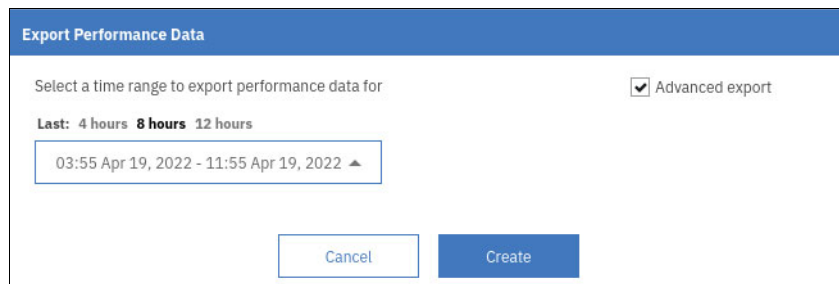

Figure 9-83 IBM Spectrum Control: Export Performance Data - Advanced Export
To include volume data and 1-minute sample data, select the **Advanced export** option (see Figure 9-83 on page 630) when you export performance data.
3. Select the time range of the performance data that you want to export. You can use the quick select options for the previous 4, 8, or 12 hours, or specify a custom time range by clicking the time and date. Click **Create** (see Figure 9-83).